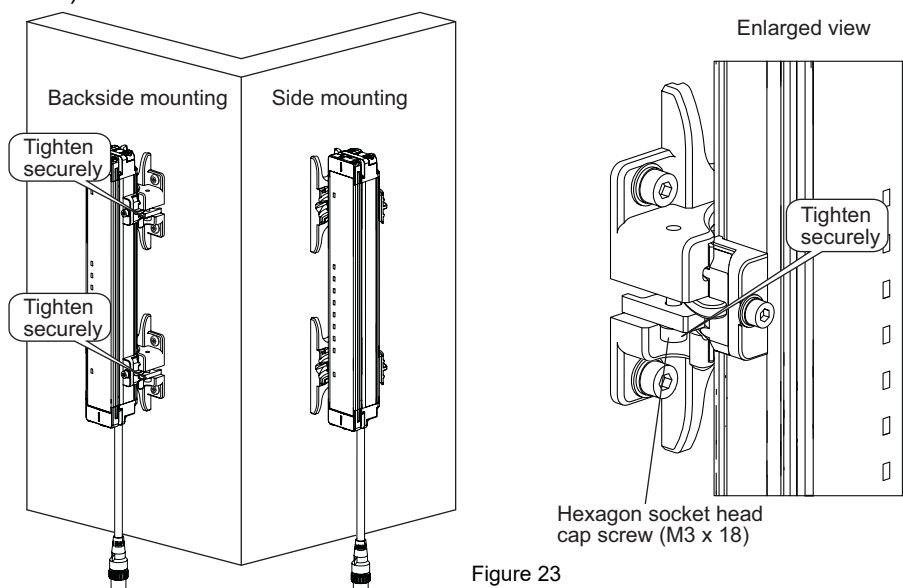

Figure 23
7. Tighten the lightly tightened the hexagon socket head cap screws (M3 x 18) of Intermediate Bracket (3) to prevent rotation. (Figure 23)